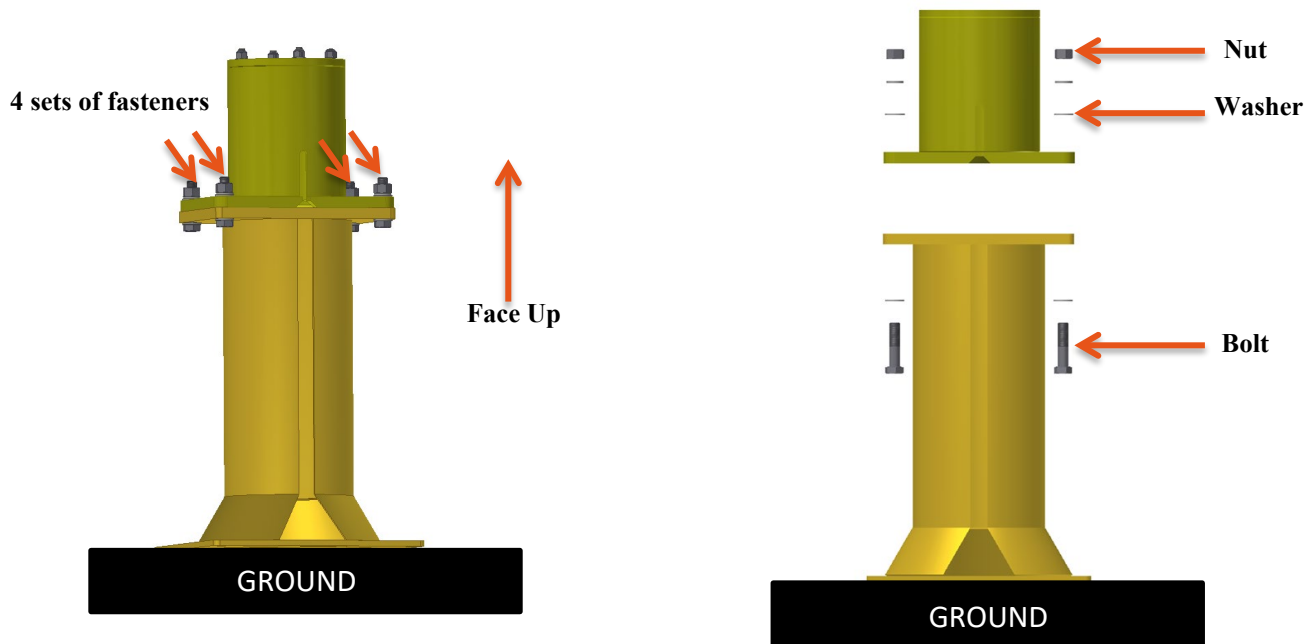

Figure 62: Vertical Receptacle Disassembly
- 26.3.4.2 For the vertical receptacle installation, carefully place the receptacle into the orientation shown in Figure 62 with the receptacle's housing facing upward. The stab and ROV vertical receptacle both have the same hardware and disassembly procedure.